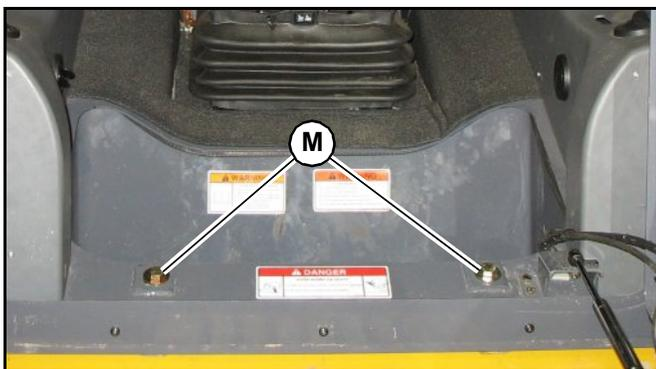

Fig. 158 – ROPS/FOPS Anchor Fasteners
Always secure the ROPS/FOPS to the chassis with anchor bolts and washers (M, Fig. 158) before driving or using the machine.
2. Remove anchor bolts and washers (M, Fig. 158) securing the front of the ROPS/FOPS to the chassis.